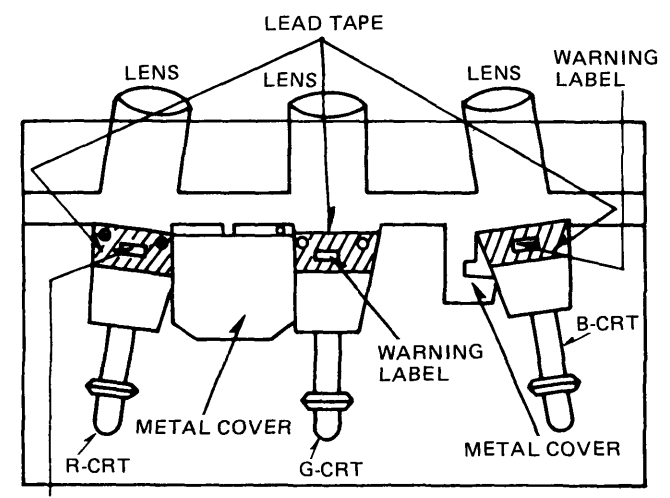

**Fig. 18**
2. Connect the high voltage meter to anode lead of the distributor as shown in Fig. 18.